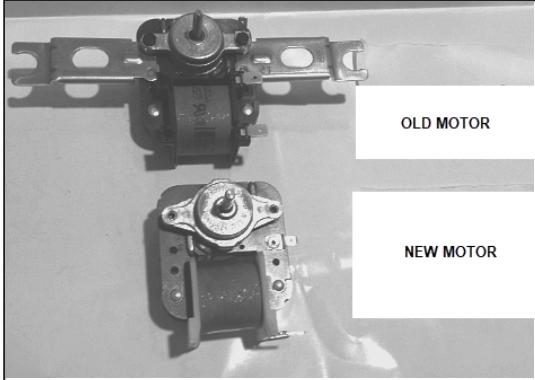

Figure 1
3. Place the new fan motor next to the old fan motor with the shaft up. See *Figure 1*.